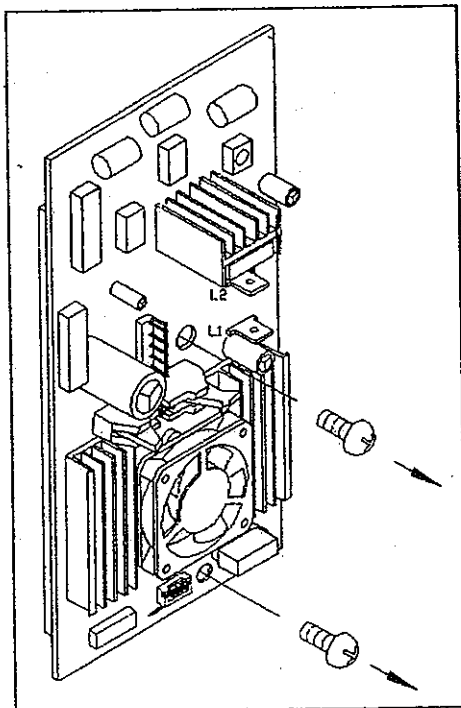

Fig. 7
5. Remove the two screws securing the drive board and remove it (see Fig. 7 & 8)